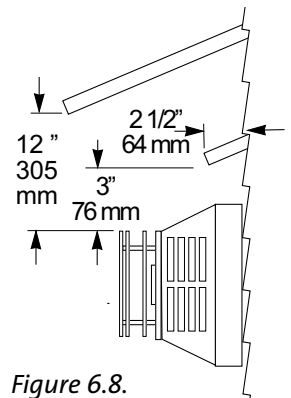

Figure 6.8.
- The horizontal termination cap must maintain a 3" clearance to any overhead combustible projections 2 1/2" or less. It must also maintain 12" clearance from projections exceeding 2 1/2". See fig. 6.8.